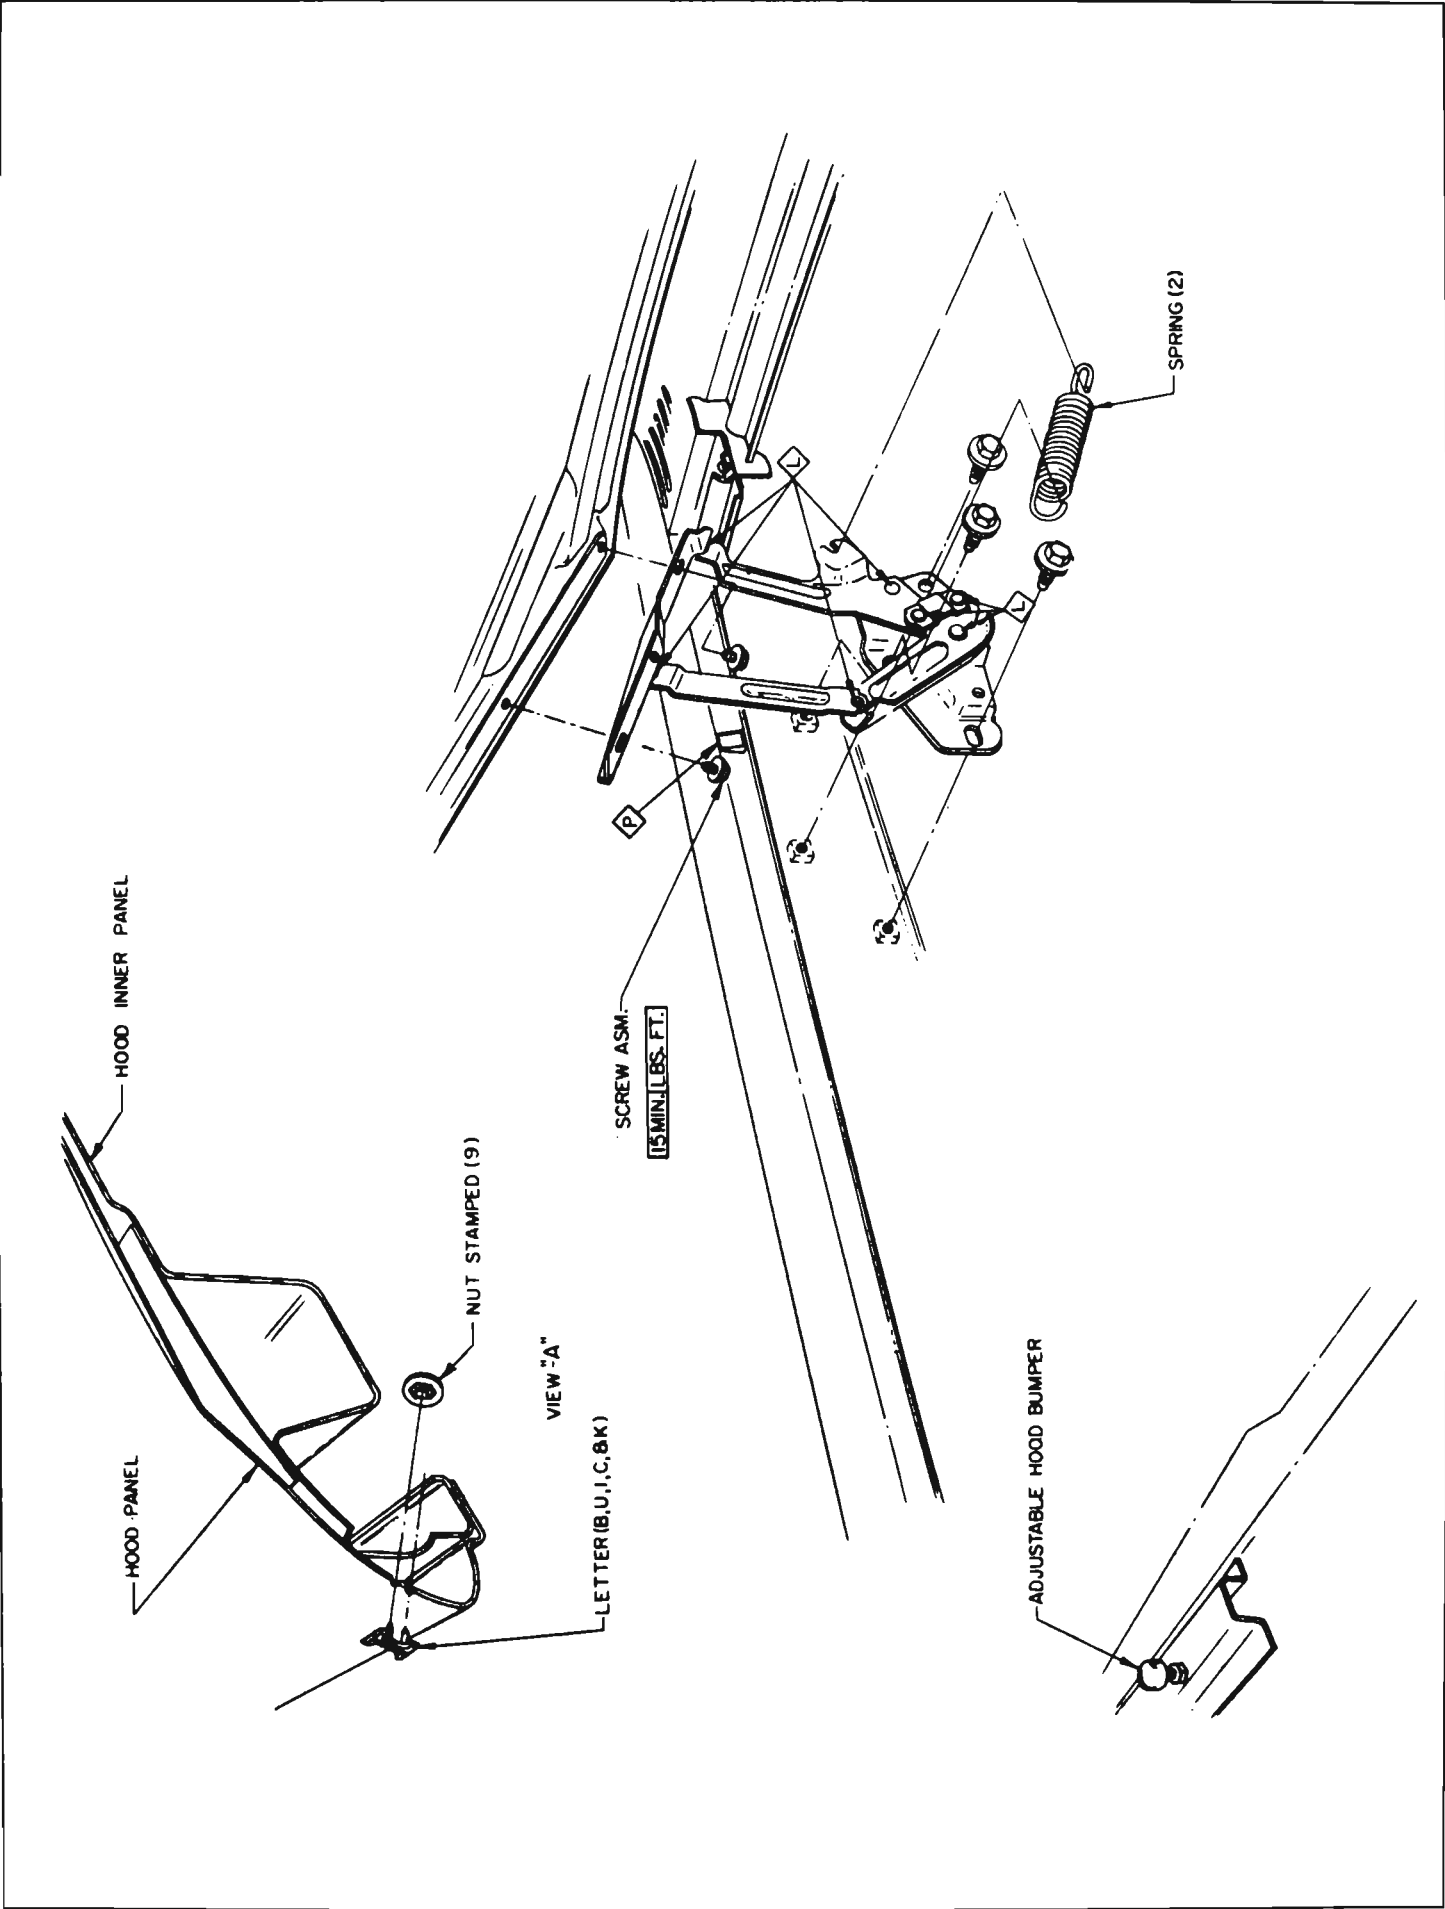

Figure 12-8—Hood Latch
- b. Loosen three bolts attaching latch to panel assembly. (See Figure 12-8).